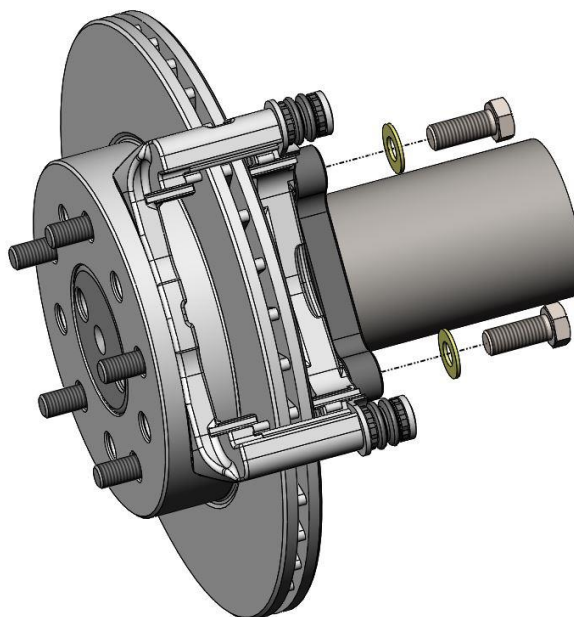

Figure 6 – Caliper Anchor Installed
9. Remove the Caliper Anchor Bracket from the caliper along with the brake pads. Install the caliper anchor over the rotor and position against the Secondary Caliper Mounting Bracket. Use the provided M12 Flat Washers and M12-1.75 x 35mm Hex Head Bolts. **NOTE:** Do not fully tighten the bolts at this point due to possible removal for shimming. The bolts will be torqued in a later step. See Figure 6 below for reference.